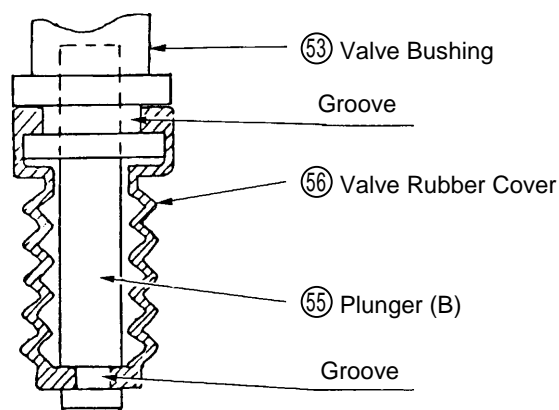

Fig. 14
- Thoroughly remove any tar or dirt which may be stuck on the nose portion of the Tail Cover (63) and the inside sliding portion of the Push Lever (47).
- Pay particular attention not to twist the Plunger Spring (50), and break or damage the O-Rings.
- After mounting the Valve Rubber Cover (56) on Plunger (B) (55), reassemble Plunger (B) into the Valve Bushing (53). As illustrated in Fig. 14, ensure that the lips of the Valve Rubber Cover (56) are properly inserted into grooves provided between the Valve Bushing (53) and Plunger (B) (55). (Refer to Fig. 14)
- On completion of reassembly, ensure that when Plunger (B) (55) is pushed up with a finger and released, it smoothly returns to its original position.